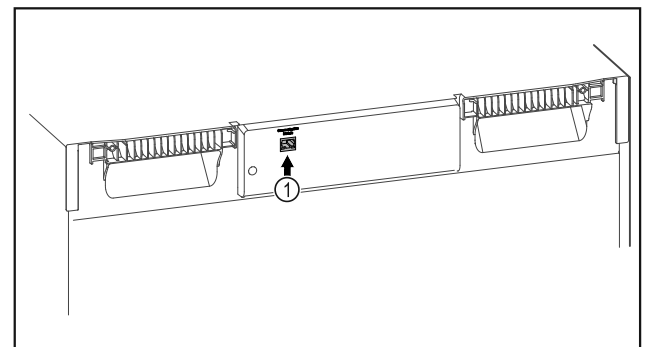

Fig. 126
- ❑ SmartModule Fig. 126 (1) is in use.